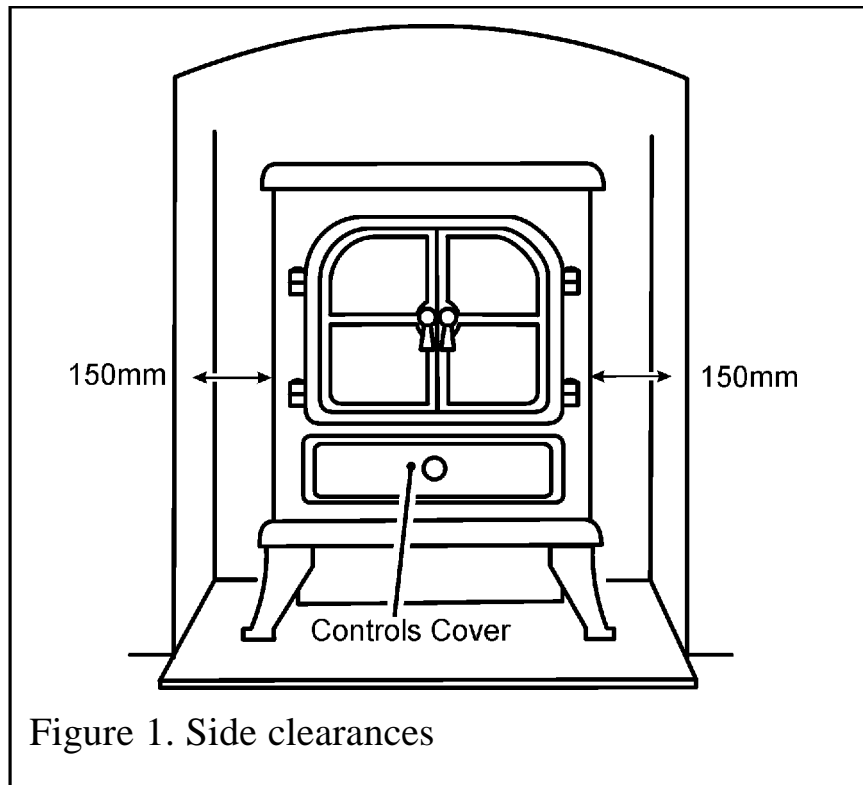

Figure 1. Side clearances
- If you are placing the stove in an alcove, make sure that there is a gap of 150mm to side walls from the sides of the stove. This will ensure good air circulation (See figure 1).